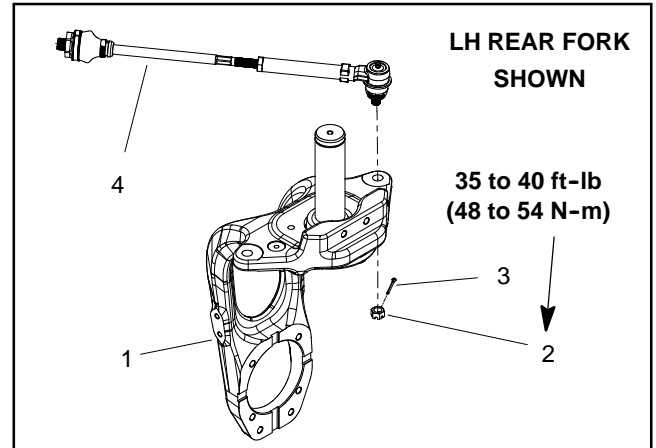
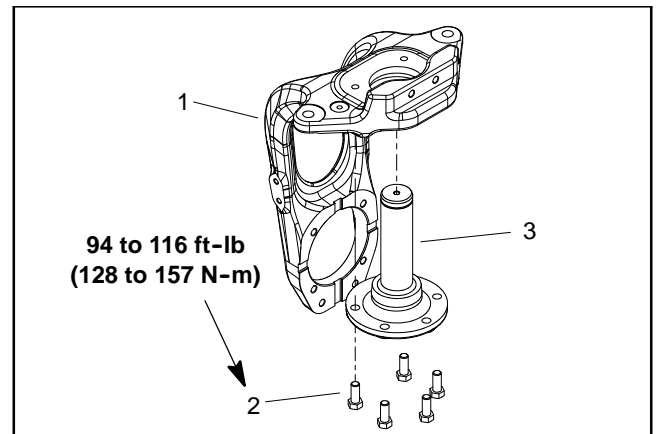

Figure 20
Figure 21
7. Remove cotter pin and slotted hex nut that secure tie rod end to the steering fork (Fig. 20). Separate tie rod end from the steering fork.
8. Remove two (2) cap screws (item 34) that secure bulkhead bracket (item 32) to steering fork.
9. Remove four (4) cap screws that secure wheel motor and brake support to steering fork. Slide wheel motor (with hydraulic lines attached) and brake support from steering fork. Carefully, position wheel motor assembly away from steering fork taking care to not damage hydraulic lines.
11. Remove the flange head screw (item 21), spindle cap (item 20) and retaining ring (item 19) that secure the steering fork shaft into the axle tube. Slide the steering fork out of the axle tube. Locate and retrieve thrust washers (items 7 and 11) from steering fork spindle.
12. Thoroughly clean the steering fork spindle. Inspect the shaft for wear and replace steering fork spindle if shaft is worn or damaged (Fig. 21). If spindle was removed from steering fork, torque cap screws from **94 to 116 ft-lb (128 to 157 N-m)** during assembly.